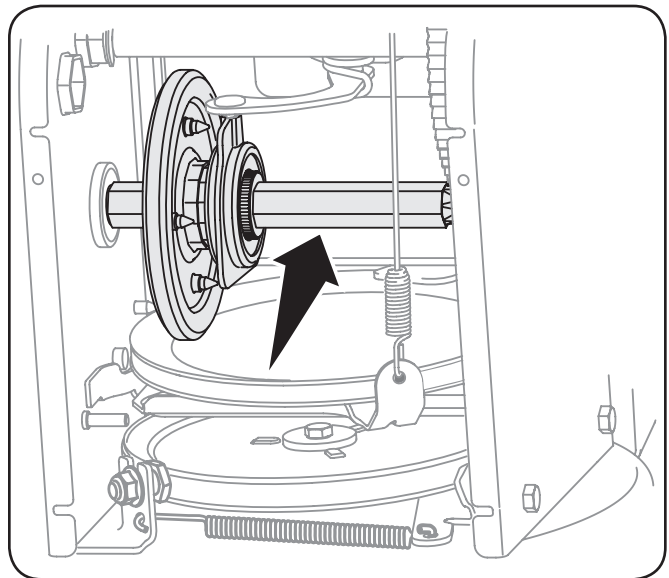

Fig. 6-2
4. Apply a light coating of Regular Grade Anti-Seize to the hex shaft. See Figure 6-2.